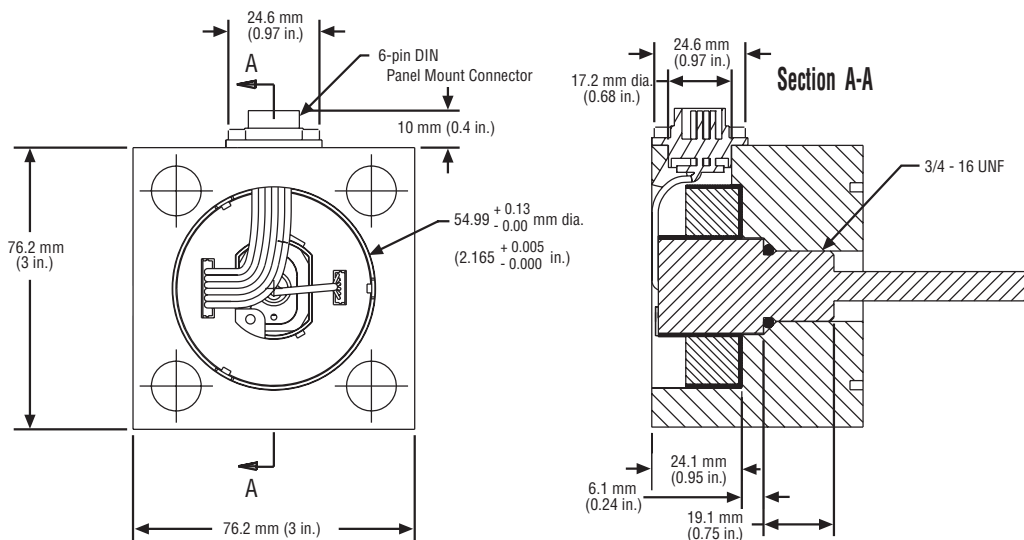

Figure 5. Typical Cylinder installation
1. The GE is shown (see Figure 5) in a sample 50.8 mm (2 in.) bore NFPA cylinder end cap installation (not provided). This is the minimum recommended cylinder size for the Model GE sensor. The dimension, $54.99 + 0.13 / - 0.00$ mm dia., for the cylinder end cap must be observed to provide proper support for the electronics module. Other dimensions shown are for reference only.